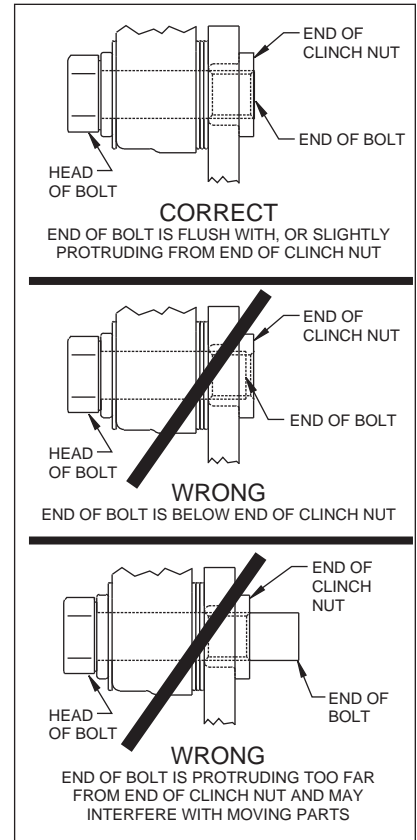

Figure 6.
- Align the correct hole pattern in the rotor (3) with the stud pattern on the axle flange. **NOTE:** Some OEM and after market axles come with stud sizes larger than 0.50" diameter. Verify stud size and have a qualified machine shop drill the bolt circle of the rotor to the correct stud size, if necessary. Slide the rotor (3) over the wheel studs covering the mounting bracket assembly (1) and against the axle flange face.
- **NOTE:** Please reference the caution statement at the beginning of the assembly instructions. Mount the caliper (4) over the rotor (3) and onto the caliper mounting bracket (1) using washers (5) and mounting bolts (6). View the rotor through the top opening of the caliper. The rotor should be aligned in the center of the caliper. If not, adjust the caliper by using 0.035 inch shims (7) by placing them between the caliper mounting bracket (1) and the caliper (4). Add as many shim washers (7) as necessary to achieve the correct alignment. **NOTE:** The end of the bolt must be flush with or slightly protruding from the head of the clinch nut. See Figure 6. Place